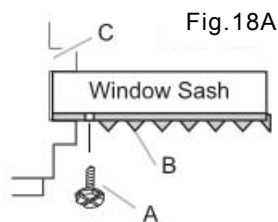
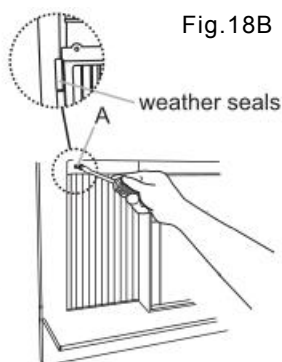

Fig.18A
Fig.18B
- Use a $1/8$ " drill bit to drill a starter hole through the hole in the top leg of each window filler panel and into the window sash (Fig. 18A and Fig. 18B). Connect with one $3/4$ " (or $1/2$ ") long hex head screw.